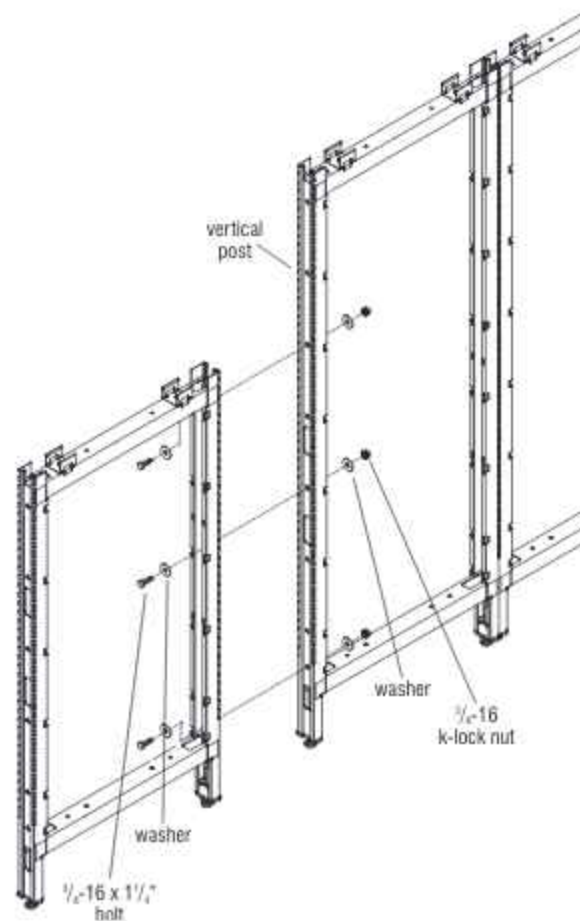

Figure 12 - 2-Way 180°, Panel Frames -
1. Stand frames next to each other and align mounting holes of both vertical posts. Place a large flat washer on each of three  $\frac{3}{16}$ -16 x  $1\frac{1}{4}$ " hex head bolts, and insert the bolt with washer through both frames to be connected. **Note:** Install one bolt through the lowest mounting hole of the pair of frames, one bolt through the highest mounting hole of the shortest frame (if one frame is taller than the other) and one bolt through the mounting hole roughly at 30" from the floor, near beltway height. At the thread end of each bolt, add a large flat washer and loosely install a  $\frac{3}{16}$ -16 k-lock nut (Figure 12).